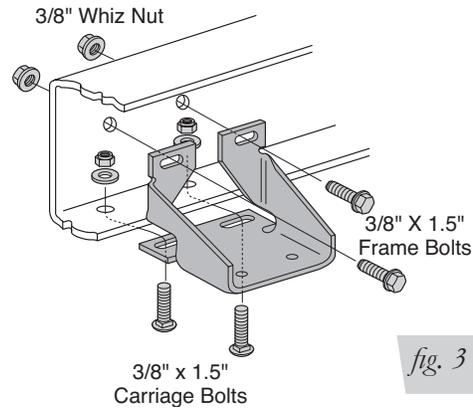

fig. 3
3. Loosely attach upper bracket to the frame rail by using the $3/8" \times 1.5"$ washerhead frame bolts (L) and whiz nuts (N) through the side of the rail and the two $3/8" \times 1.5"$ carriage bolts (K) through the flange (Fig. 3).